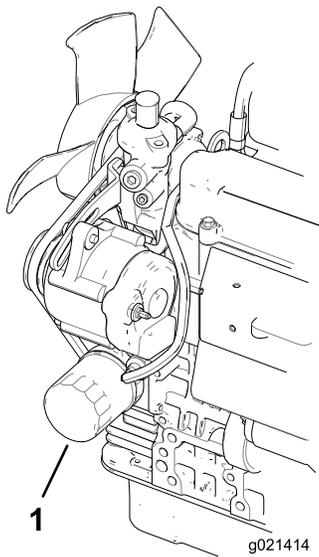

Figure 46
2. Remove the oil filter (Figure 46). Apply a light coat of clean oil to the new filter seal before installing the filter. **Do not overtighten.**